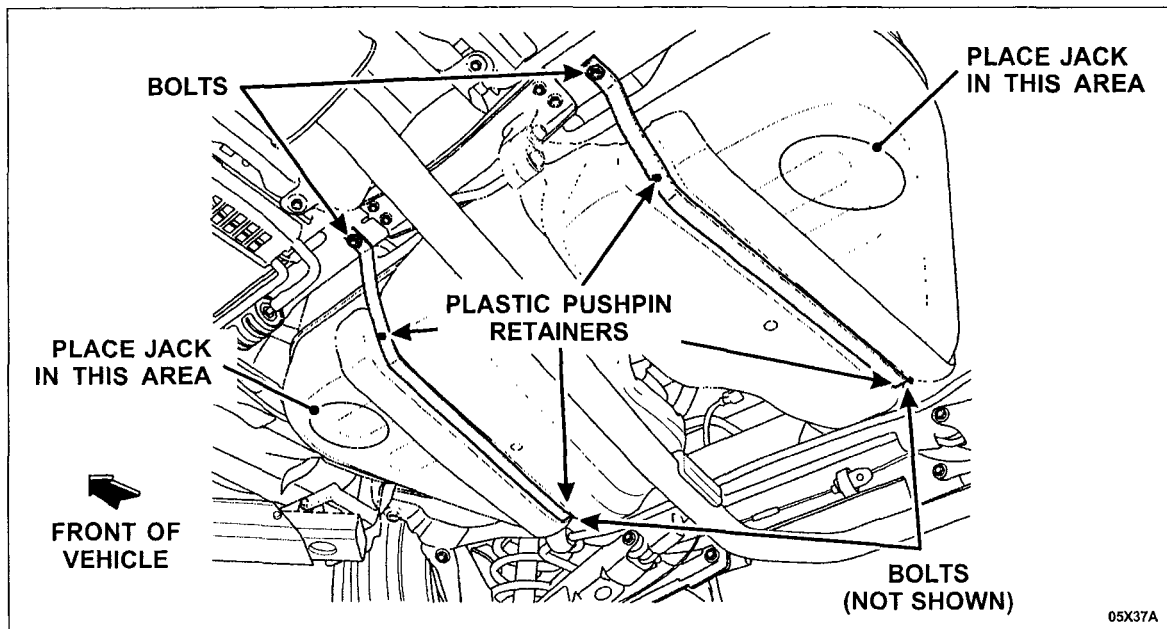

FIGURE 1
3. Using side cutters, cut off the two (2) plastic pushpin retainers protruding through the heat shield and tank strap. See Figure 1.
4. Remove the fuel tank strap bolts and remove the strap from the vehicle. On Five Hundred and Montego FWD vehicles, **discard the REAR bolt only**. See Figure 1.